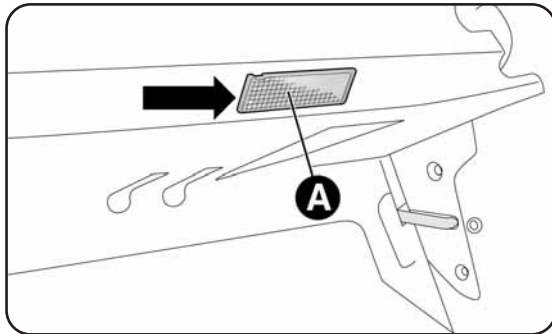

fig. 32
- remove the light A-fig. 32 levering in the point shown by the arrow;